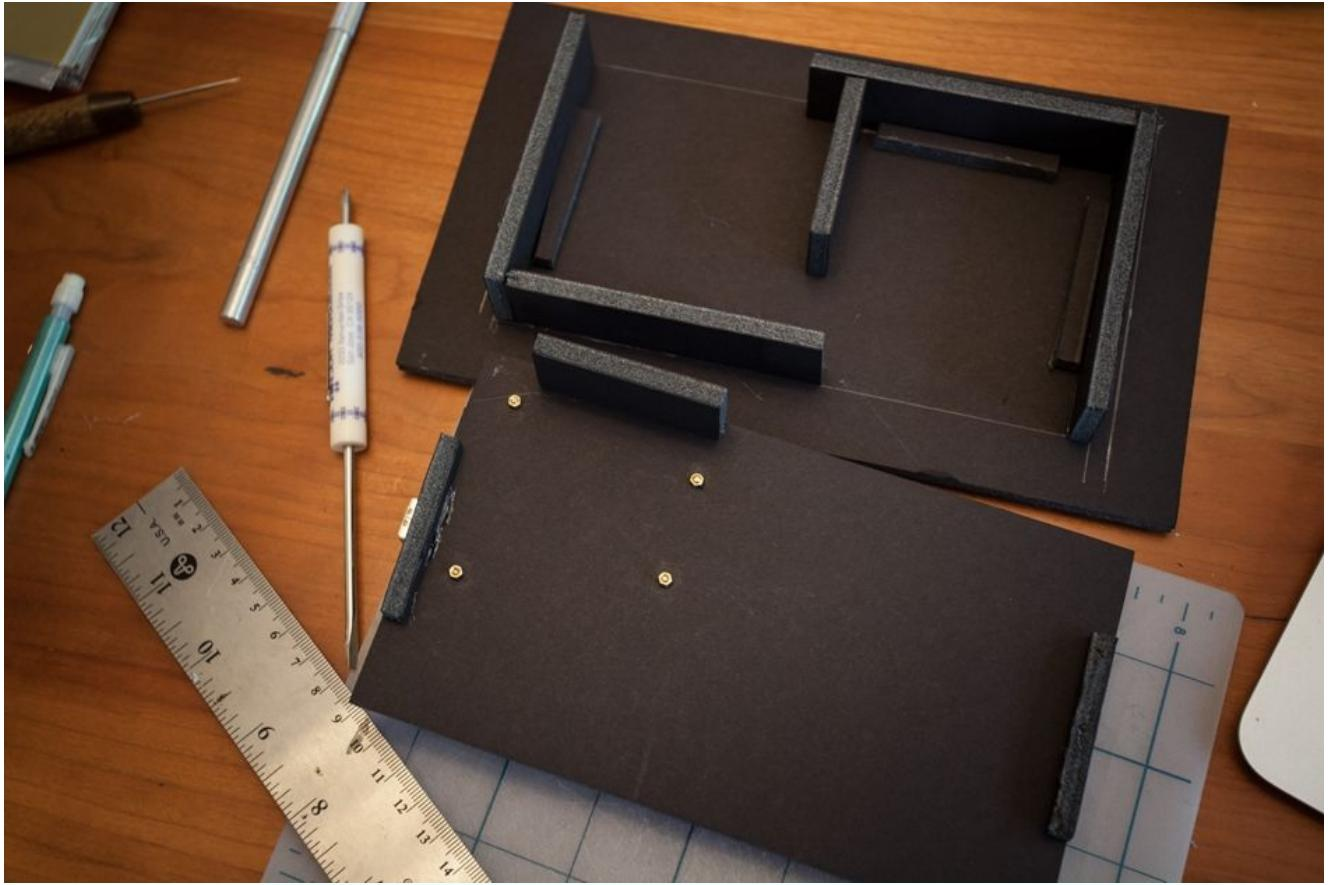

Figure 7-4. The completed base construction, with the mounting board upside down
4. Glue the two additional $3.5'' \times 1''$ supports at right angles to the first, as shown in Figure 7-4.
5. With one of the long edges of the sundial base facing you as in Figure 7-4, position the battery holder in the inside, rear right corner, with the battery holder's wires coming toward you. Mark the position of the battery holder's left edge and glue a shorter, $2'' \times 1''$ support there to create a little house for your batteries. It doesn't need to be too snug or accurate.